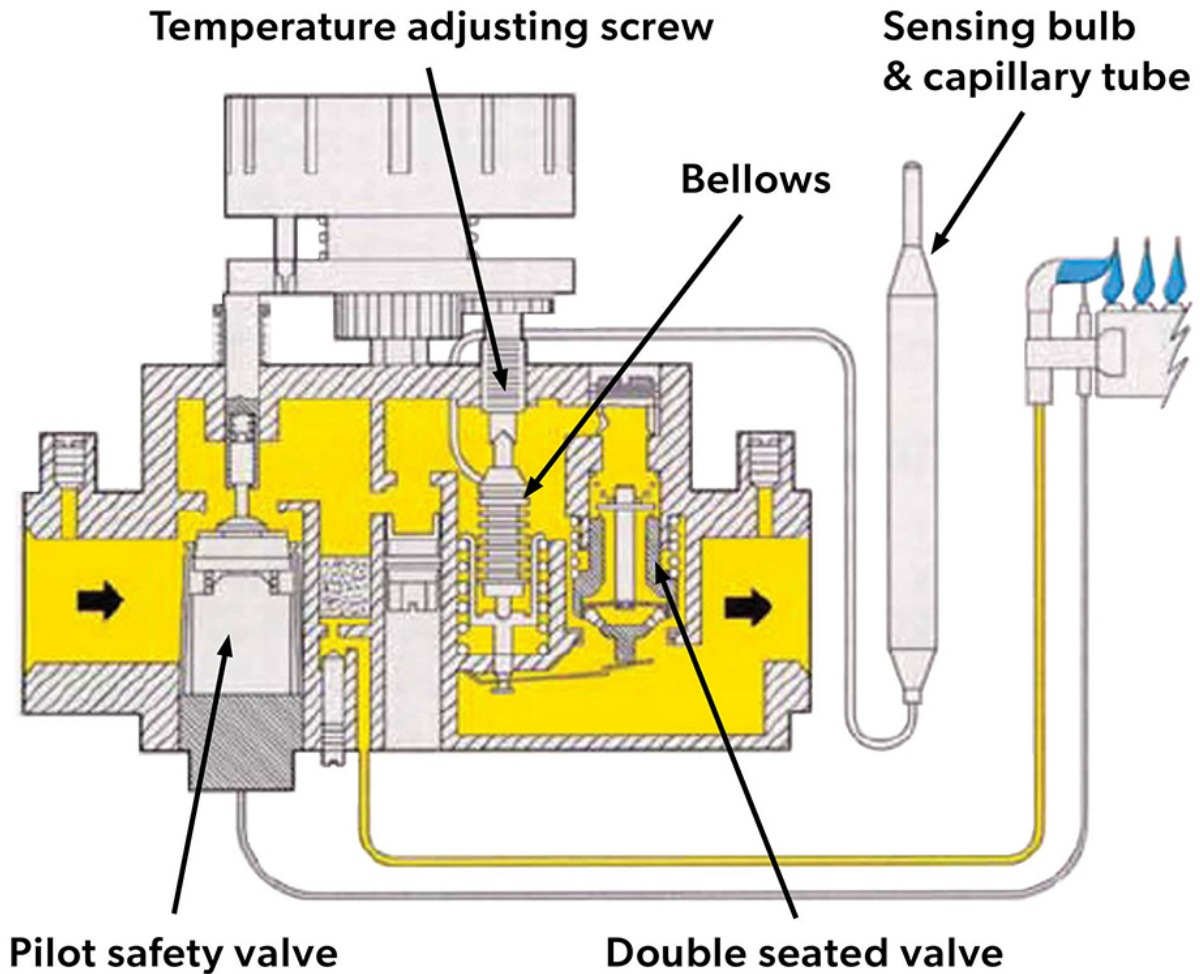

Figure 83. Modulating hydraulic valve closed position
Besides snap-action where the valve is fully open or closed most valve manufactures also have modulating (snap-throttle, modusnap) types. Modulating hydraulic thermostat is similar to the snap-action, except that the valve initially snaps on and shuts off at a pre-set minimum input. If the temperature continues to drop the input will alter between full and minimum. Figure 83 shows the valve with the pilot safety valve being held open by the thermocouple. The temperature setpoint is satisfied so the double seated valve is closed.
- Figure 83. “Modulating hydraulic valve closed position” from SIT is used for educational purposes under the basis of fair dealing.